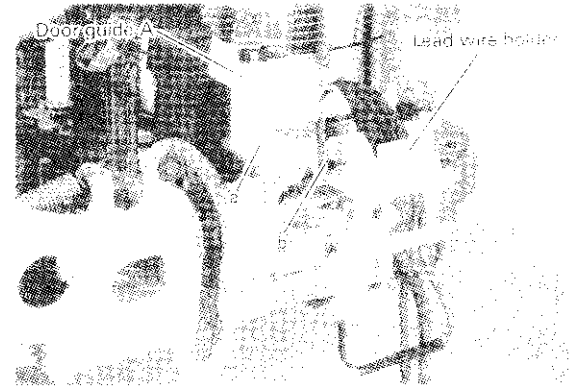

Fig. 3-13-1
- (1) Keep the cassette housing under eject force.
- (2) Remove the fixing screw (2) (Fig. 3-13-1) and take the door guide A off the cassette housing.
- (3) Remove the connector (AE) on the PCB MCA.
- (4) Take off the lead wires connected to the AC head from the lead wire holder (Fig. 3-13-1).
- (5) Remove the fixing screw (6) (Fig. 3-13-1) and take off the lead wire holder.